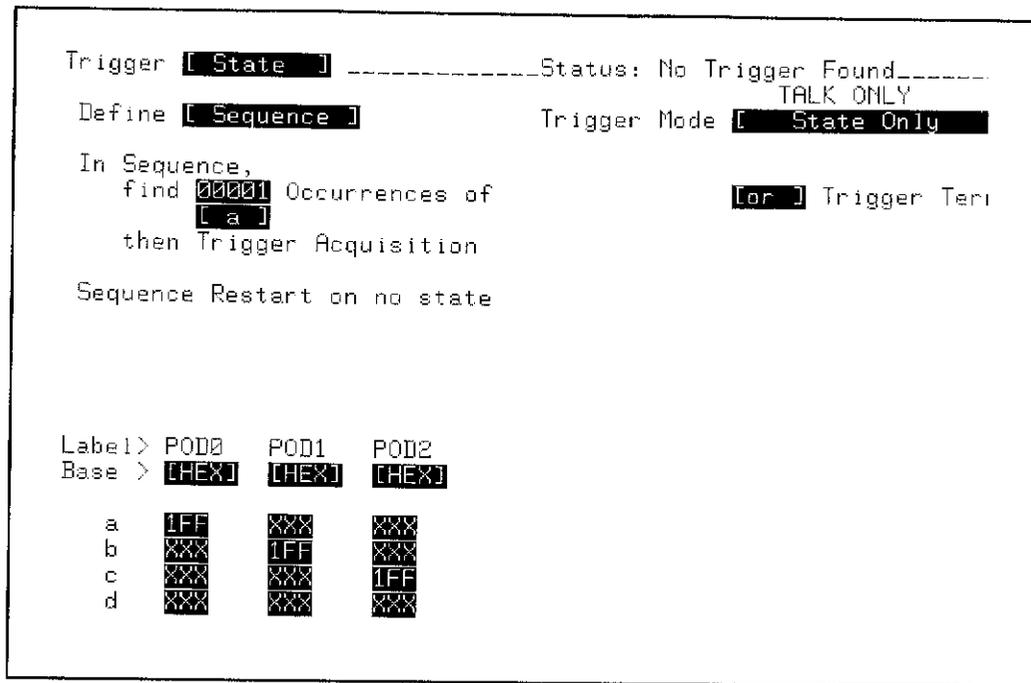

Figure 3-45. TRIGGER State / Define [Sequence] Menu
4. Configure the TRIGGER State / Define [Sequence] menu as shown in figure 3-45.
15. Reconfigure the TRIGGER State/Define [Sequence] menu shown in figure 3-45 with "Occurrences of [b]". Disconnect POD 0 and connect POD 1. Repeat steps 12 through 14.
16. Reconfigure the TRIGGER State/Define [Sequence] menu shown in figure 3-45 with "Occurrences of [c]". Disconnect POD 1 and connect POD 2. Repeat steps 12 and 13.
21. Reconfigure the TRIGGER State/Define [Sequence] menu in figure 3-45 with "Occurrences of [a]".
26. Reconfigure the TRIGGER State/Define [Sequence] menu in figure 3-45 with "Occurrences of [b]". Replace POD 0 with POD 1 and repeat steps 23 through 25.
27. Reconfigure the TRIGGER State/Define [Sequence] menu in figure 3-45 with "Occurrences of [c]". Replace POD 1 with POD 2 and repeat steps 23 and 24.